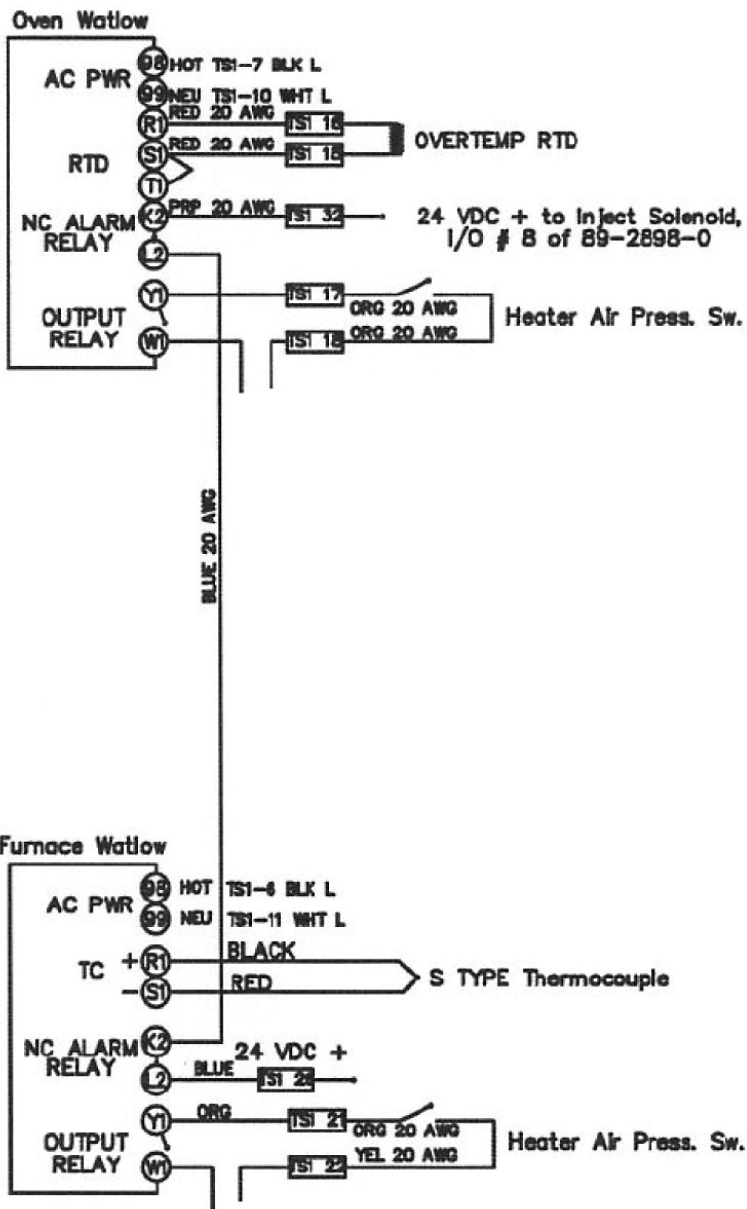

Figure 4. Wiring diagram for EZ-ZONE PM6 in a SOLA II system
- Figure 4 shows the wiring for the EZ-ZONE PM6 controller in a SOLA II system.